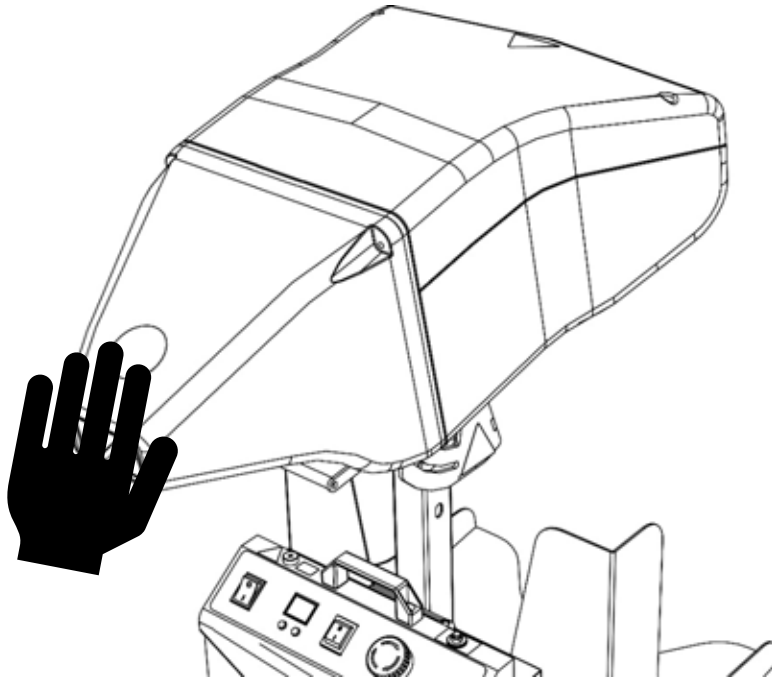

Figure 8 Dispenser Head
1. Hold the **Dispenser** head with one hand (refer to Figure 8).